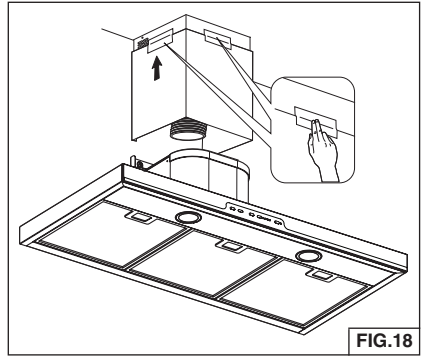

FIG.18
6. Temporarily secure the upper and lower flue together with duct tape as shown. Fig. 18.